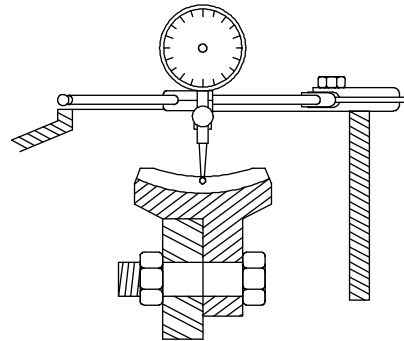

Figure 38 - Dial Indicator Measuring Backlash
1. Install one inspection cover bolt into the gear case, and attach a dial indicator to the cover bolt. See Figure 38.